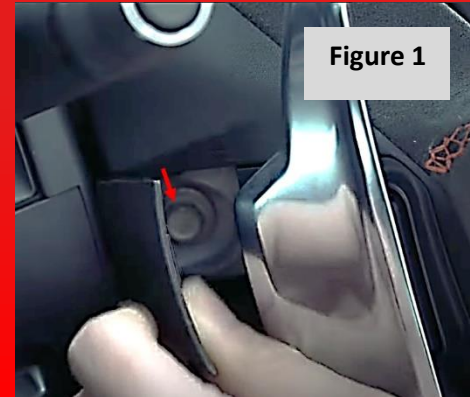

Figure 1
1. Using a plastic pry tool, pull off small side panels on both sides of the steering column (**Figure 1**) to reveal 10mm bolts (x1 per side). Remove these bolts to release the airbag module from the steering wheel core. Pull the airbag module free from the core.
24. Slide the airbag module back into place on the steering wheel. Reinstall the (x2) 10mm screws (x1 per side) on both sides of the steering column. Replace the plastic covers (labeled for left- and right-hand side). Reconnect the battery and confirm function of the steering wheel, controls, & horn (*Step 1, Figure 1*).